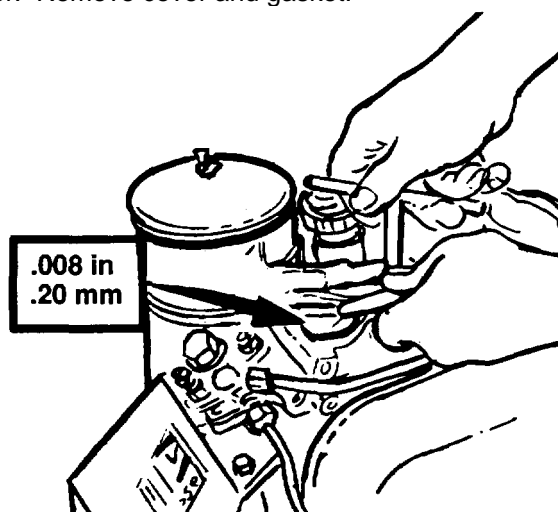

Figure 7-11. Adjusting Valve Clearance
5. Adjust the valve clearance, with the engine cold using a feeler gauge. Adjust the clearance between valves and rocker arms to .008 in or .20 mm, fig. 7-11.